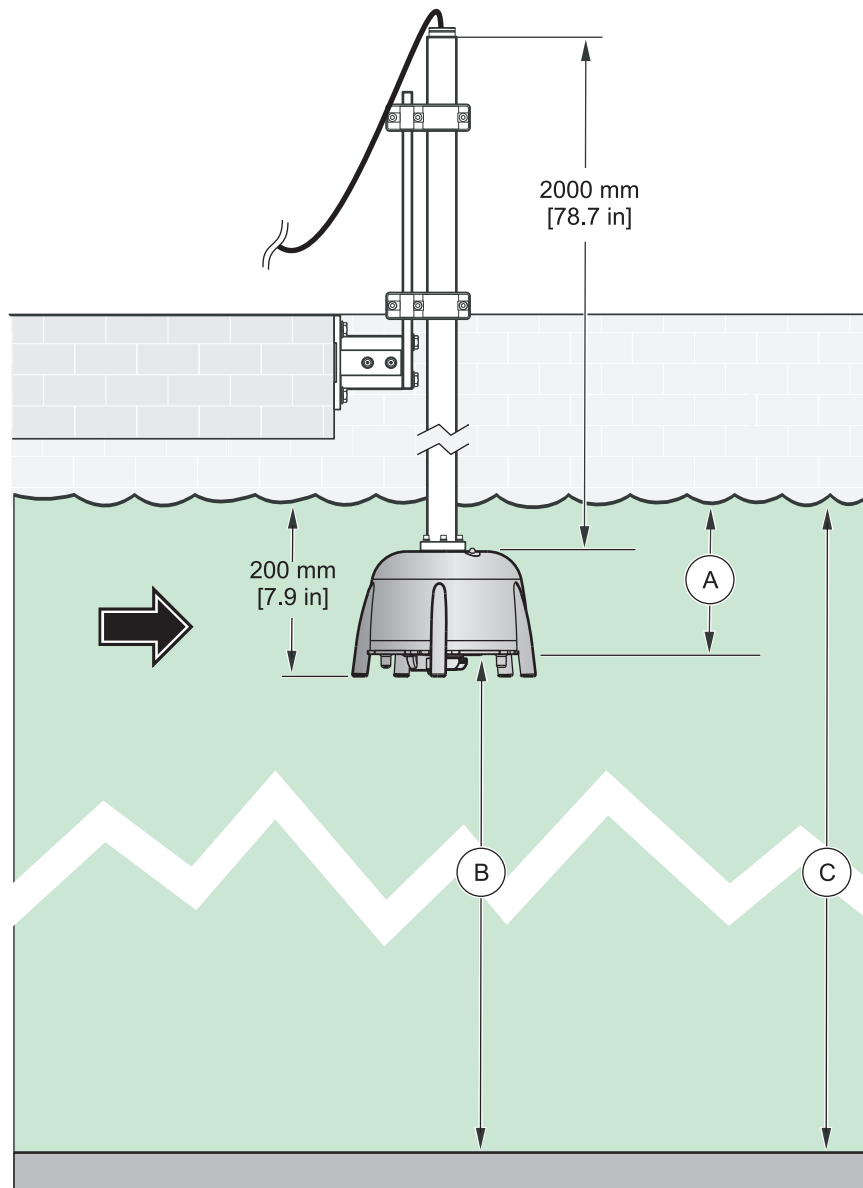

Figure 10 Plunger depth–tank depth
4. In the CALIBRATE probe menu, enter the actual plunger depth (Item A, Figure 10) in the PLUNGERDEPTH menu item.
6. In the CALIBRATE probe menu, enter the recorded value of the tank depth (Item C, Figure 10) in the TANK DEPTH menu item.